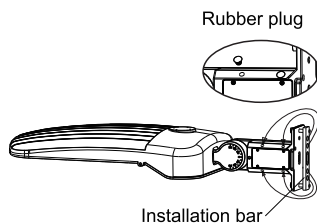

Figure 19
Step 1: Remove the four bolts from A&D bracket, remove the four rubber plugs from installation bar, put the four rubber plugs on the place where the four bolts were previously placed on the bracket for waterproof purpose (Figure 19)